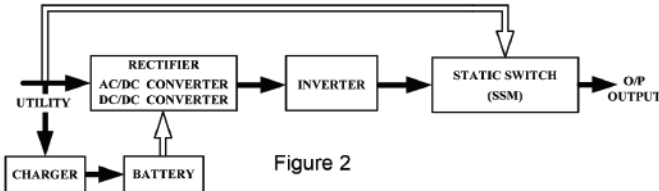

Figure 2
2. When the utility returns to normal the UPS will turn on the AC/DC converter, turn off the DC/DC converter, and switch the charger to charging mode. This is the same operating mode as in Figure 2.
4. The UPS will restart automatically when the utility is available, with the same status as in Figure 2.